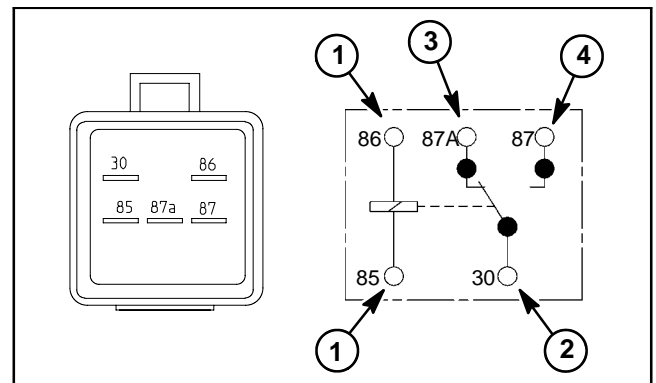

Figure 10
3. Using a multimeter (ohms setting), measure coil resistance between terminals 85 and 86 (Fig. 10). Resistance should be between 70 and 90 ohms.